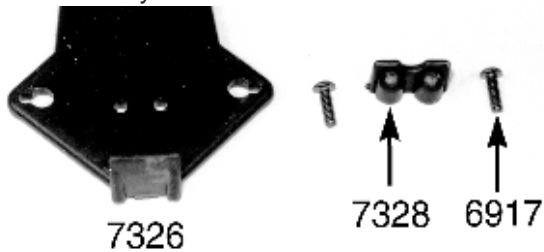

Fig. 193
□ **Figs. 193 & 194** In bag #7-7 you will find the #7326 molded battery brace. If you are running seven cell 8.4 volt battery packs this is all you will need to remove. If you are running six cell battery 7.2 volt battery packs you will also need to remove one #7328 battery brace 6-cell stop and two #6917 4-40 x 3/8" BHSScrews. For six cell packs install the #7328 stop so that the flat side of the stop is facing the narrow end of the #7326 battery brace.